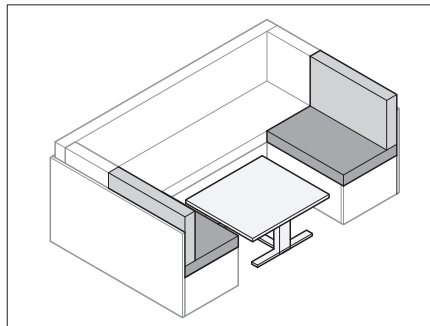

Fig. 68 Converting the table
- Convert the table (Fig. 68) into a bed foundation (see Section 7.7).